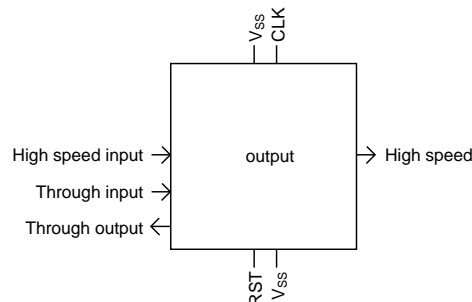

Figure 8-3 Example of the Placement of Critical Signal Pins – 1
- Place the clock and reset pins that require minimization of the influence of noise away from output pins and close to the power-supply pins (Figure 8-3).
- Place fast-operating input and output pins near the middle of one side of the chip (package) (Figure 8-3).
- If the delay time from any specific input pin to an output pin has a small margin in the customer specifications, place these input/output pins close to each other (Figure 8-3).